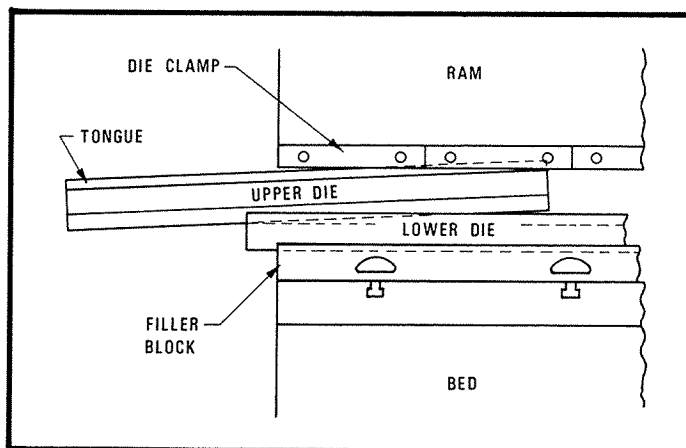

FIGURE 60
6. Rest the upper die on extended portion of lower die. Make sure tongue of upper die is in the ram nose slot. See Figure 60. Then slide upper die into lengthwise position with the lower die. Slide the set of dies into a centered position on the filler block. Tighten the filler block set screws to secure lower die.